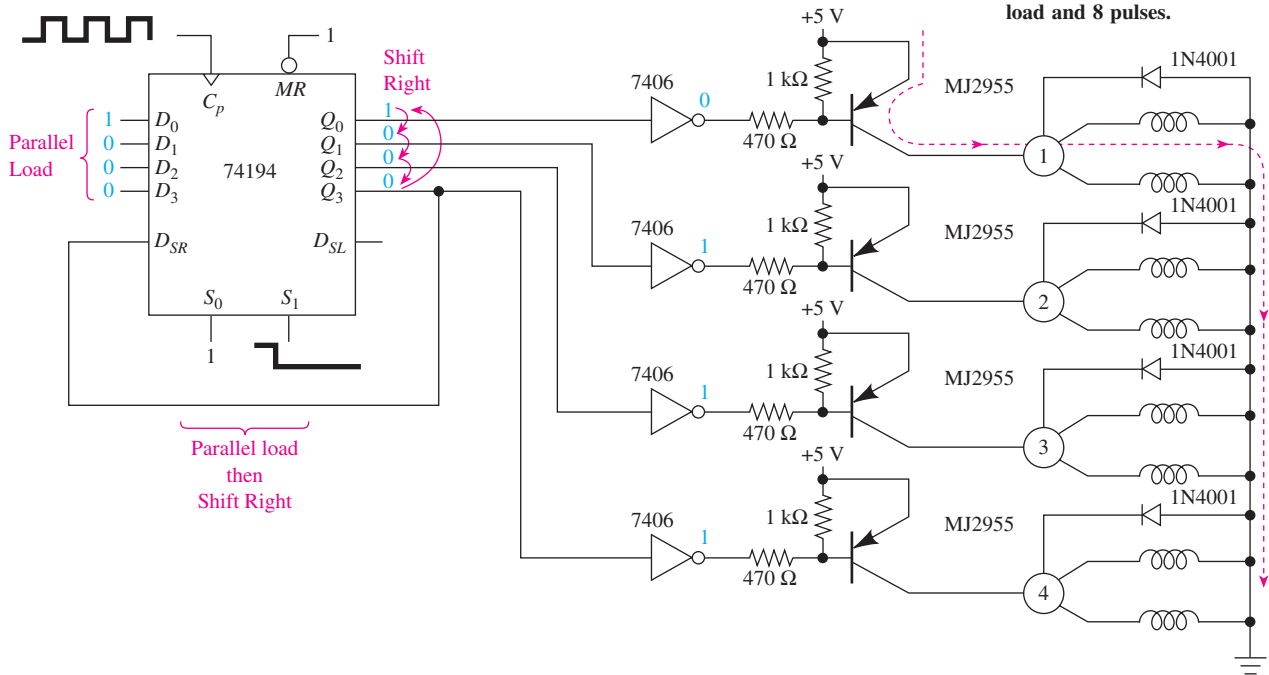

Figure 27 Drive circuitry for a four-coil stepper motor showing the number 1 coils energized.
The amount of current required to energize a coil pair is much higher than the capability of a 74194, so we will need some current-buffering circuitry similar to that shown in Figure 27.
19. Is the stepper motor in Figure 27 turning clockwise or counterclockwise? How would you change its direction?